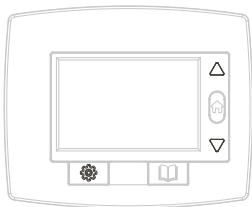

Fig.1
5. Press the key "⚙️" to save the setting (Fig.1)